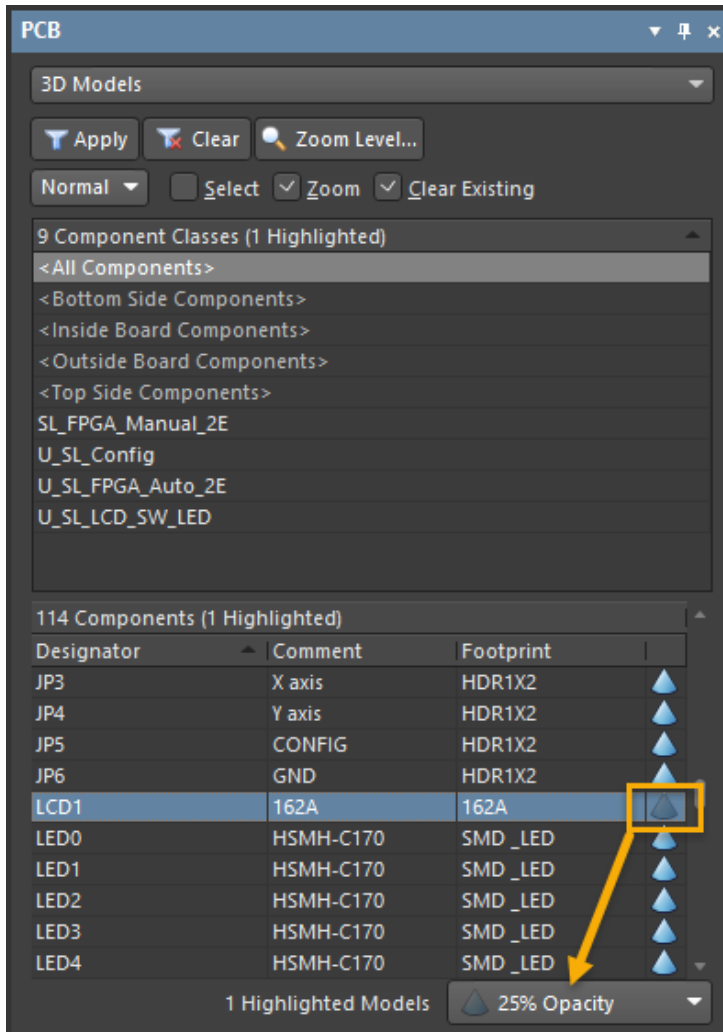

Figure 4. Locate LCD1 using the PCB panel
- c) Scroll down through the components in the center area of the *PCB* panel to the LCD display, LCD1, and select it as shown in Figure 4.